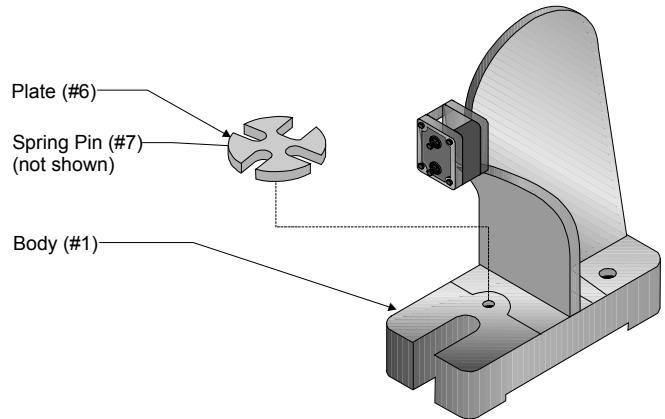

Figure 2 -- Installing the Plate
1. Place the PLATE (#6) onto the Base of the BODY (#1) as shown in Figure 2. Insert the SPRING PIN (#7) into the hole in the BODY.